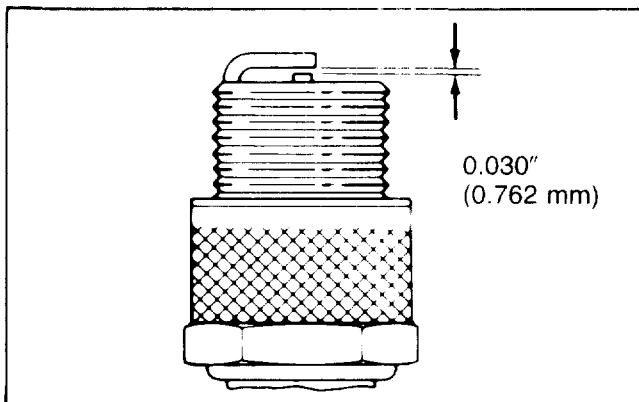

Figure 18
4. Set air gap between center and side electrodes at 0.030 of an inch (0.762 mm) (Fig. 18). Install correctly gapped spark plug w/gasket seal, and tighten plug to 15 ft-lb (20.4 N·m). If torque wrench is not used, tighten plug firmly.